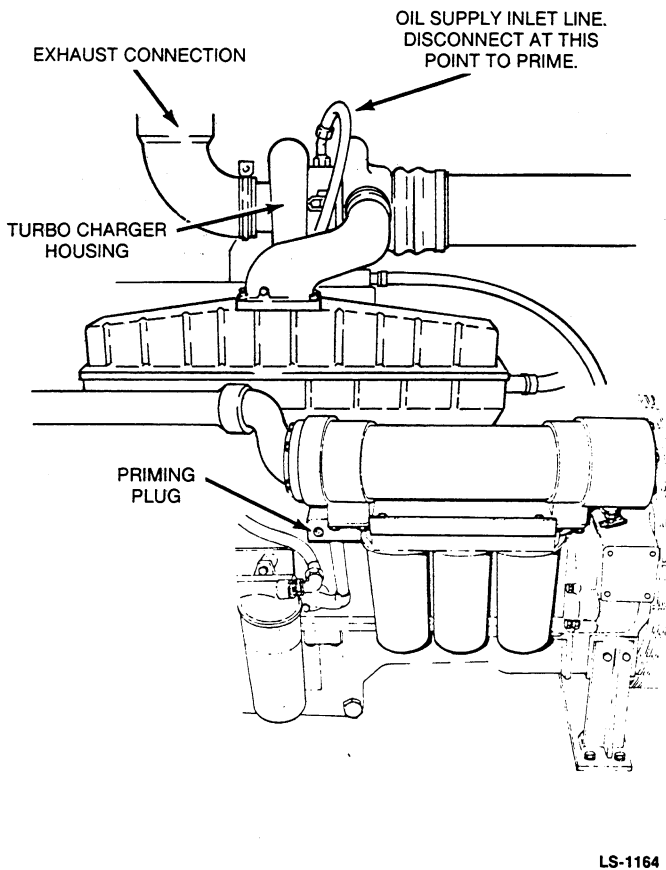

FIGURE 16. PRIMING TURBOCHARGER (DFY SHOWN, REFER TO ENGINE MANUAL FOR OTHER SERIES.)
1. Remove oil inlet line from turbo-charger housing (Figure 16), fill bearing housing with clean engine lubricating oil; replace line, secure.